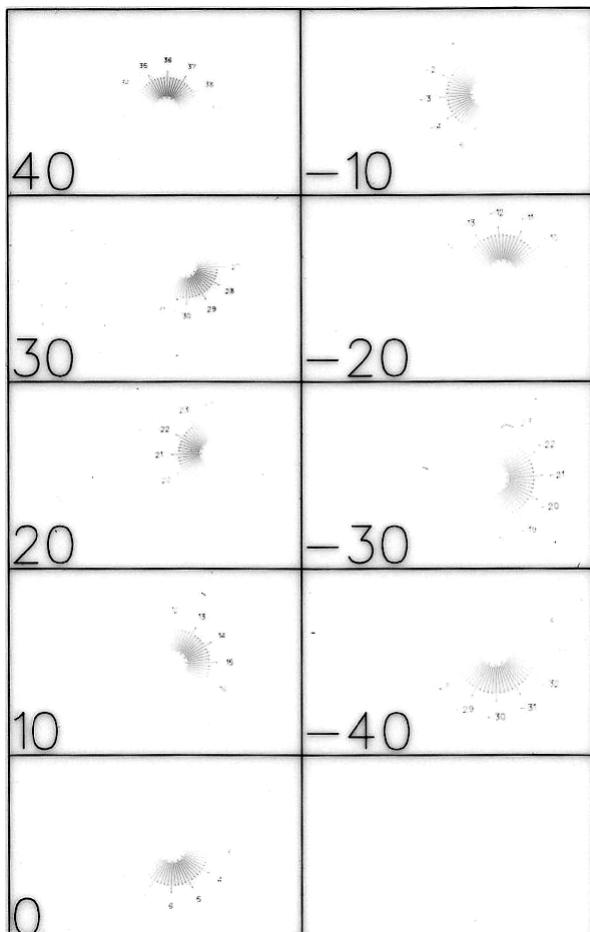

Figure 84: Marking result of job file Calibrate_Optic3D_Circle_-50_to_50.sjf
- iii. Adjust the pen power (eventually use SAMLight Parameter Finder) that you can easily define the *Best marked line* in the marking result. Usually, you find the *Best marked line* at the middle of marked scale, see figure 84.
After step 2d) you should have marking results together with target heights similar to figure 84: